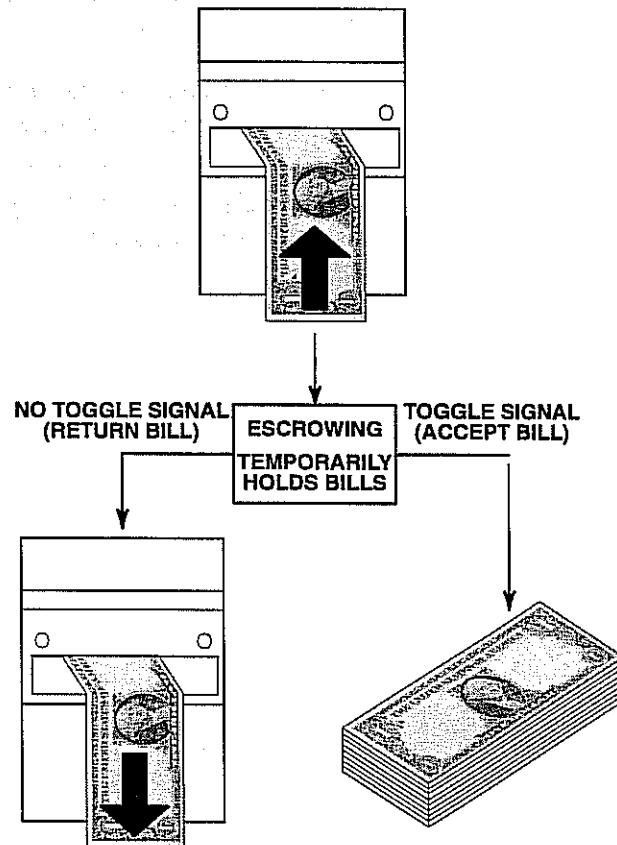

Figure 1-3. Escrowing.
- **Escrowing** – Escrowing is the period of time in which the microprocessor determines a bill's validity after it has been inserted into the validator and scanned. If the bill is found to be valid, it is accepted and transported to the stacker assembly for storage. If it is determined that the bill is invalid, the bill is returned (see Figure 1-3).